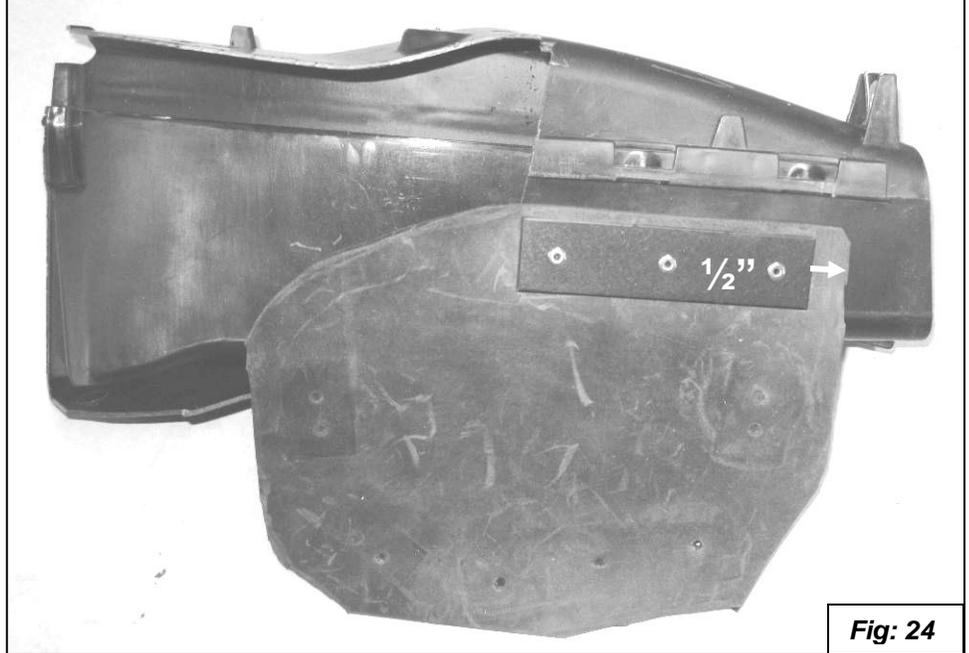

Fig: 24
20. Rivet the rubber cover to the brake duct as shown in **Figure 24 thru 27**. Start as shown in figure **24** and work your way around the duct. Align the edge with the seam. Leave $\frac{1}{2}$ " extra rubber at the end.